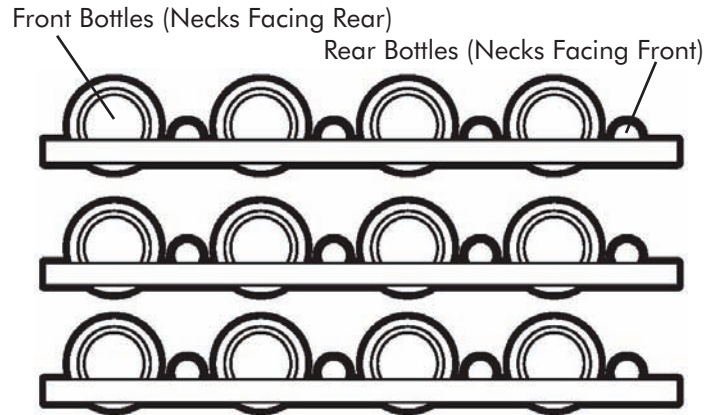

Figure 7
The six (6) roll-out shelves each hold eight (8) bottles. See Figure 7 for typical wine bottle spacing. Tall bottles should not be loaded on the bottom rack because they may prevent the door from closing.